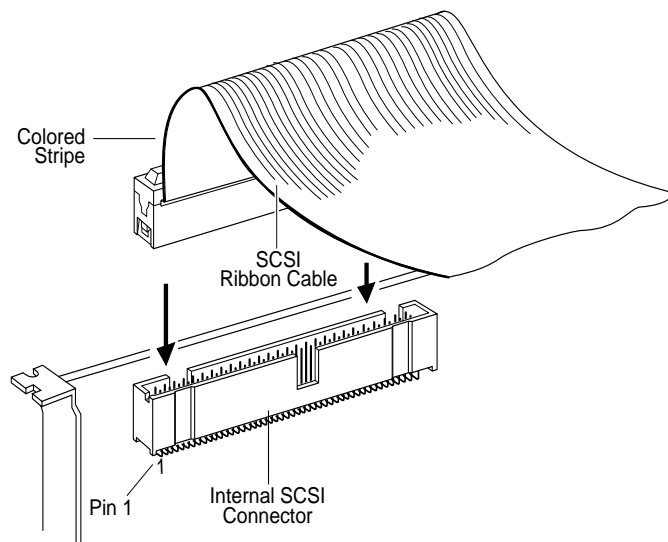

Figure 2-5. Internal SCSI Ribbon Cable to the AHA-3940U
- 1 Plug the SCSI connector at one end of the SCSI ribbon cable into one of the host adapter's internal SCSI connectors, as shown in Figure 2-5. Line up the colored stripe on the ribbon cable with the number 1 printed below the connector on the host adapter. This is called maintaining *pin-1 orientation*. Maintain pin-1 orientation throughout the SCSI bus, or the devices will not work properly.